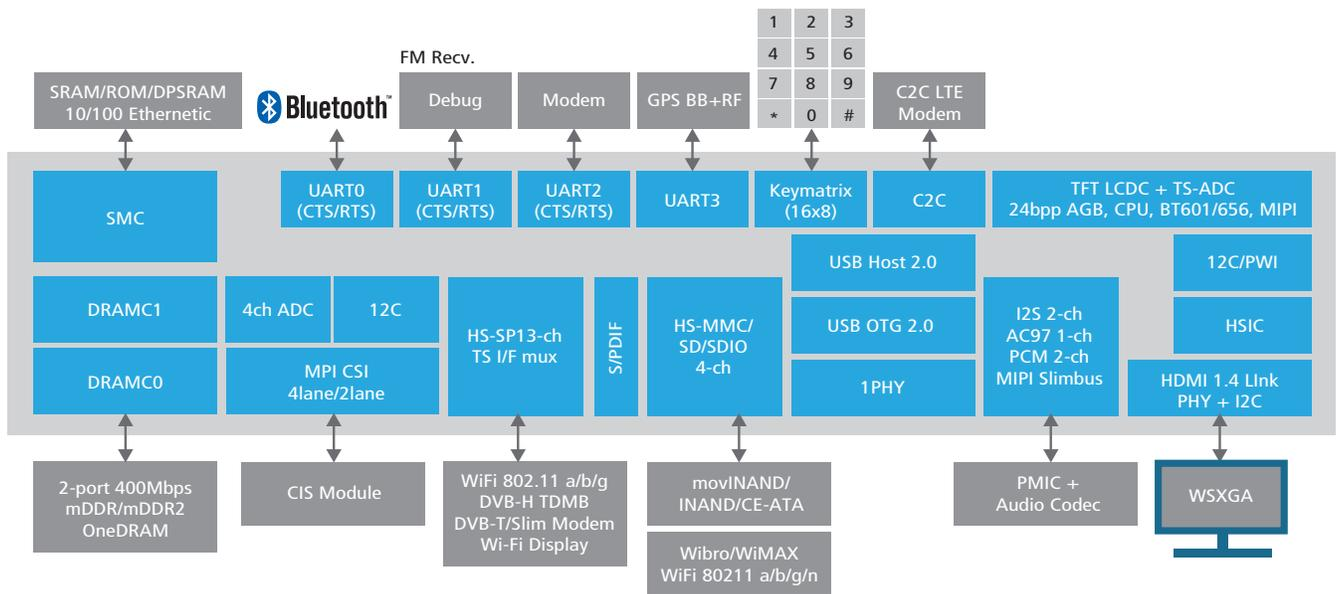

Figure 1: Application processor SoC block diagram
Figure 1 is a block diagram of Samsung’s mobile application processor Exynos, in which the complexity of the SoC verification task may not be initially apparent. Conventionally, each intellectual property (IP) block is verified, followed by each subsystem, and then the full SoC is integrated for connectivity verification. At the scale of the chip in Figure 1, the ability to execute verification is failing in two dimensions—the ability to execute a traditional simulator use model and the ability to use a monolithic verification methodology.
On the simulator side, the complexity consumes more memory and more runtime. For the SoC in Figure 1, there are 15 RTL subsystems, each between 7 million and 35 million gate-equivalent in size.